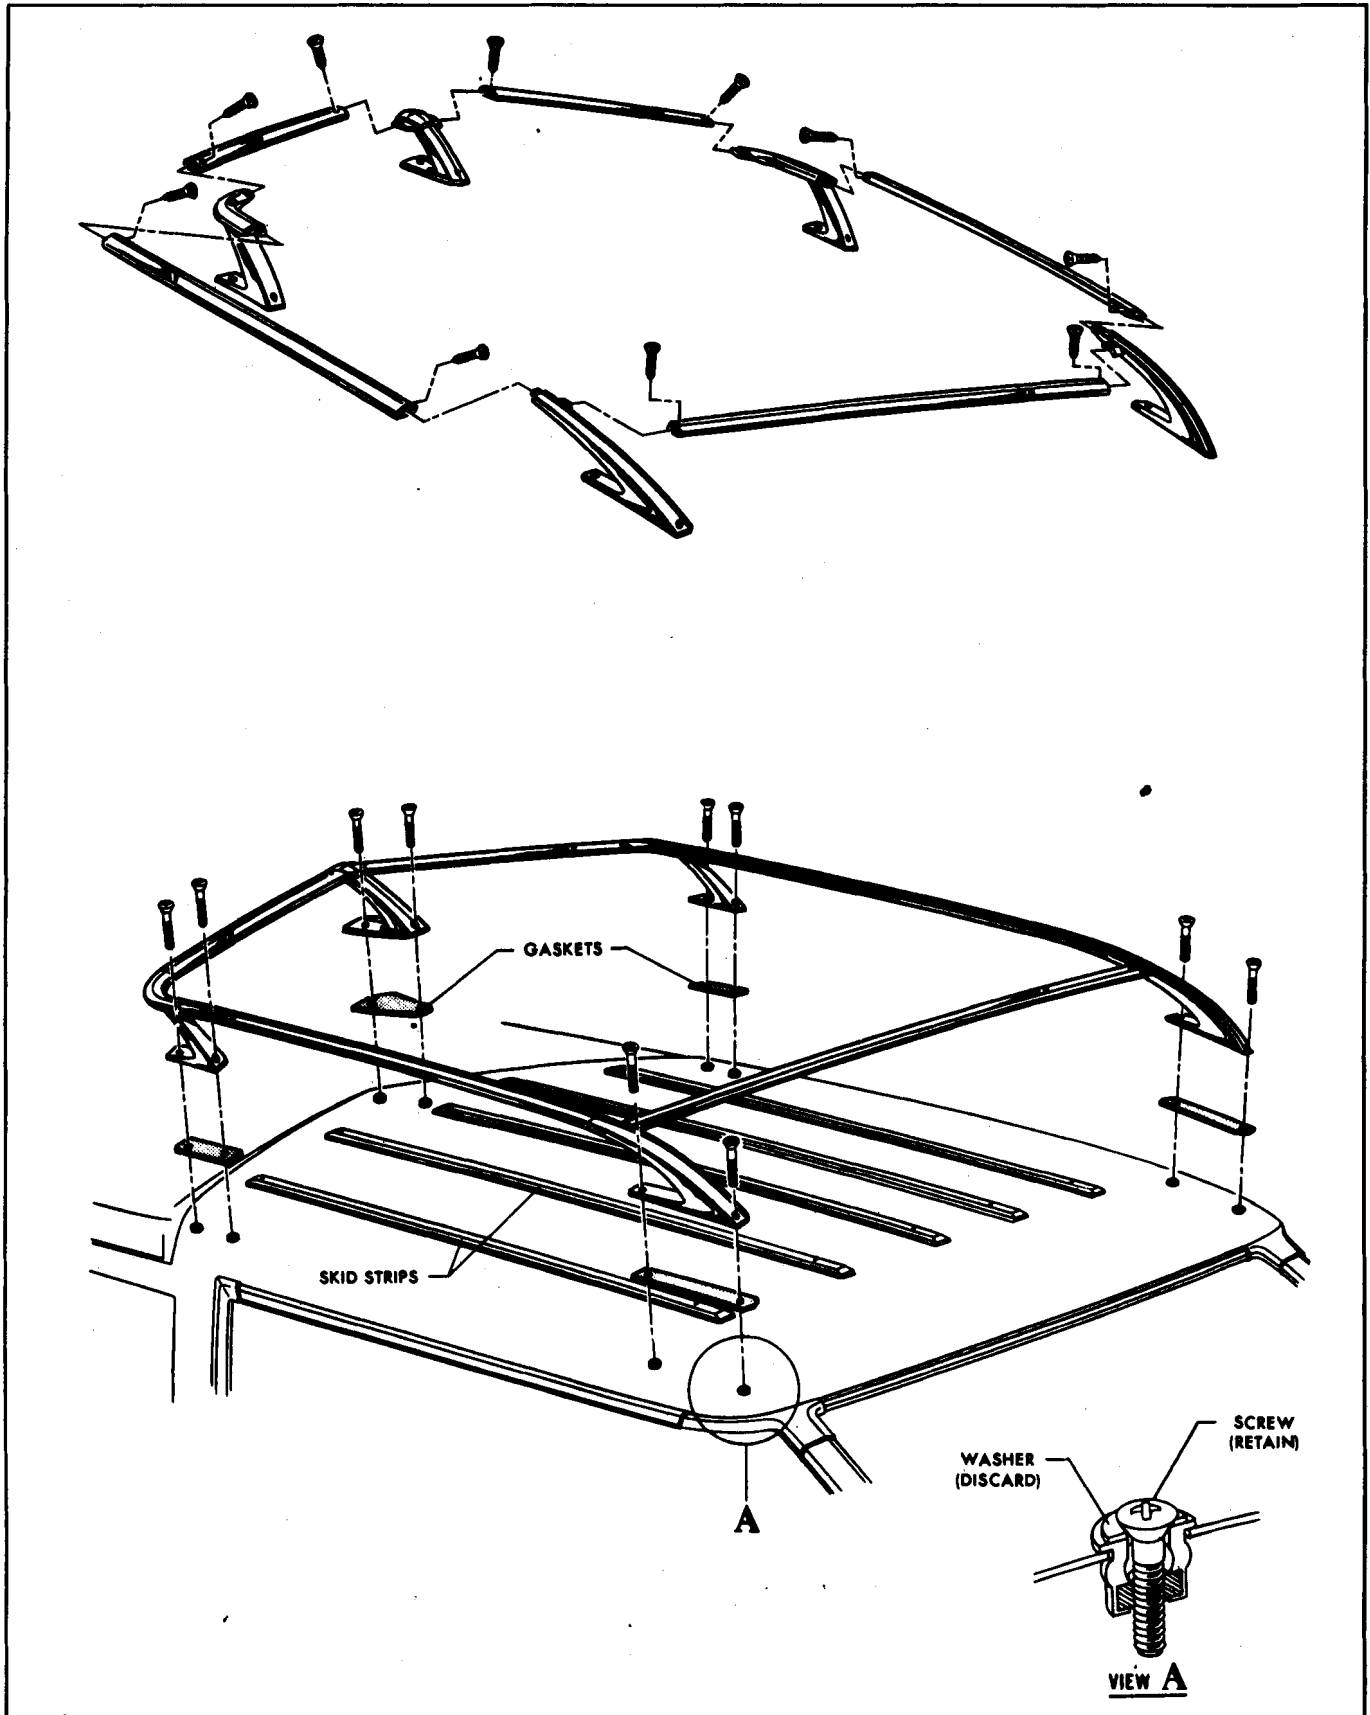

Fig. 11-21-Luggage Carrier Installation - Factory Installed Option
1. Assemble supports and top rails with ten 3/8 inch long screws (Figure 11-21).
2. Remove ten screws and washers from rubber support mounting nuts on roof (View "A", Figure 11-21). Leave rubber nuts in place. Keep screws, discard washers.
4. Position luggage carrier on roof and install ten screws through supports into rubber nuts. Use light pressure on screws until threads engage in the nut to avoid pushing nut through roof panel (Figure 11-21).